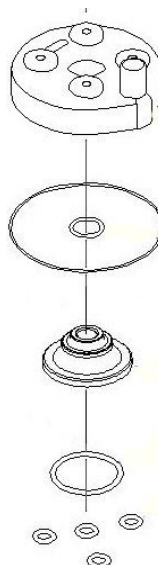

Figure 22
17. Install o-rings as shown in figure 22.